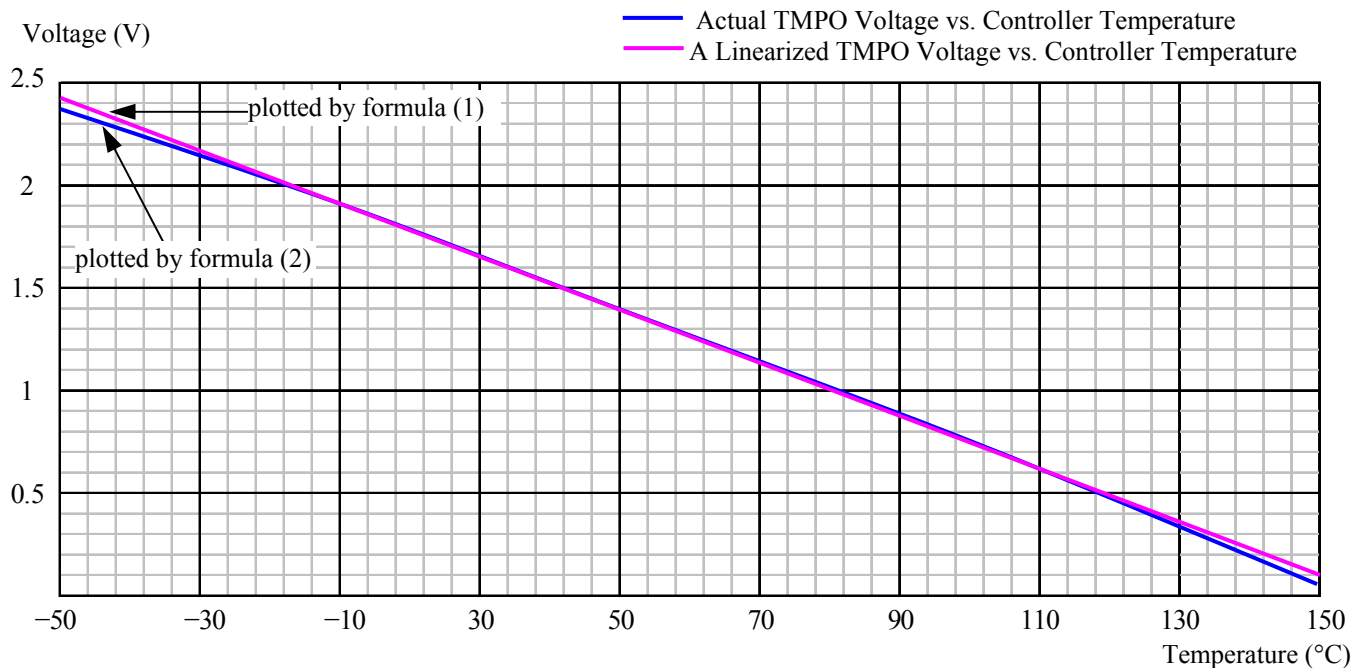

Figure 10. Controller Internal Temperature vs. TMPO Voltage
Within the most commonly used temperature range of between  $0^{\circ}C$  to  $100^{\circ}C$ , the maximum error occurs at about 1.5V, at which the temperature error between the calculated data by using the formula (1) and the approximated data obtained by using the linear equation (2) is about  $0.4^{\circ}C$ , with the linear data being a little lower. The curves of the 2 sets of the data are plotted in Figure 10.